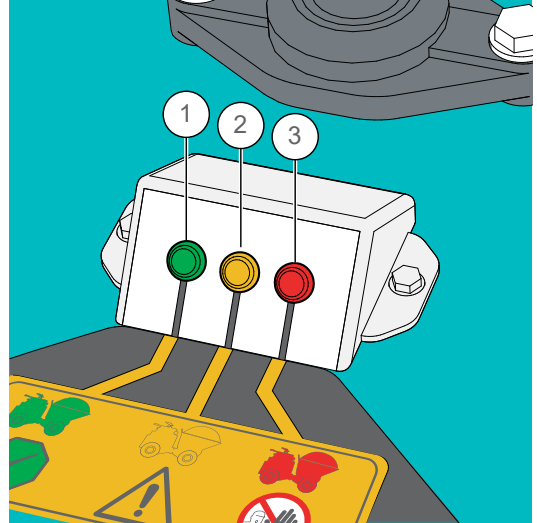

Figure 13. Motor Amp Draw LED
9. The buggy is equipped with a motor amp draw LED to indicate the load on the motor (Figure 13)